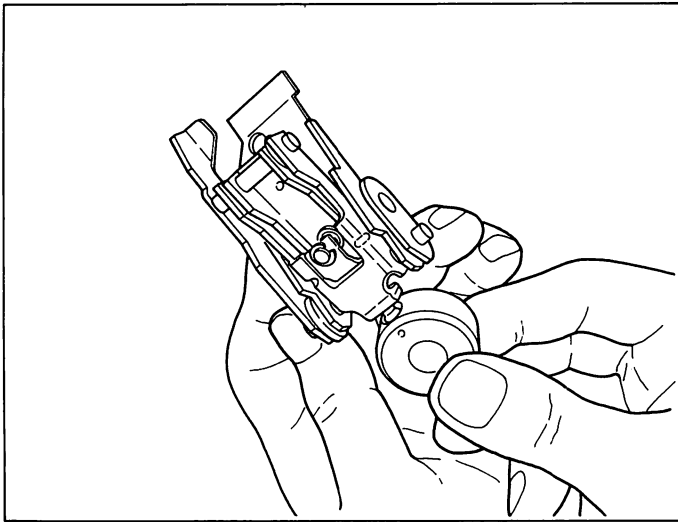

Fig. 66 Checking ball-pin movement
1. After adjustment of "K" dimension (selection of the shims), remove once again the cam disk and then be sure to fit the spring (200) onto the disk (27). Install the cam disk (29) so that the cam disk knock pin aligns with the drive shaft keyway.
2. Fit the governor lever assembly (95) ball pin into the control sleeve hole to check that it moves smoothly but firmly. (Fig. 66)